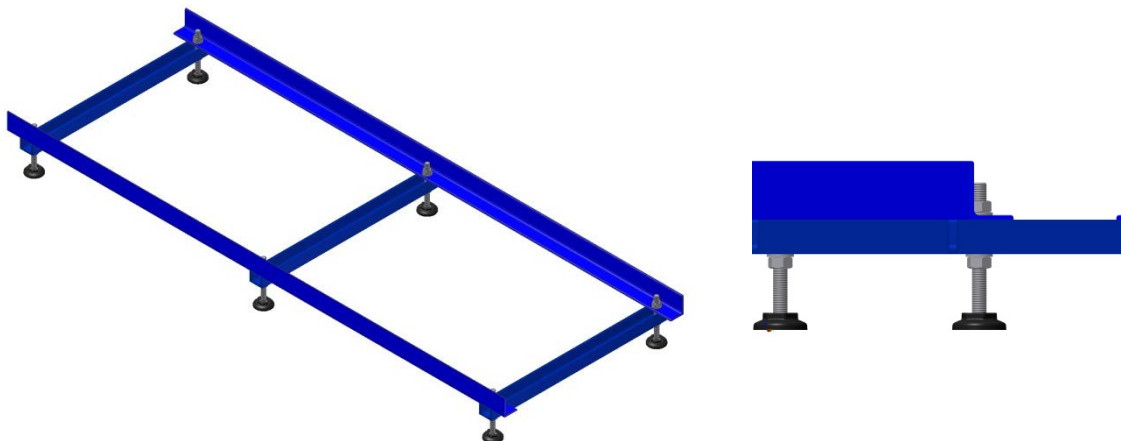

Figure 10-20: Constructing the base by connecting the three channel sections to the angle sections
1. Construct the base by bolting the three channel sections to the two angle sections (bolts with nuts and lock washers M16 x 150) and fit the adjustable feet to the bolt heads as shown in Figure 10-20. Place the base in the location in which you wish to install the system and use a spirit level to check that the base is perfectly level both front to back and side to side, adjusting the feet as necessary. Make sure the weight is distributed evenly across all the feet. Thanks to the floating mounting of the bottom cross braces on the base (see point 2), it is also possible to fix the feet to the floor.